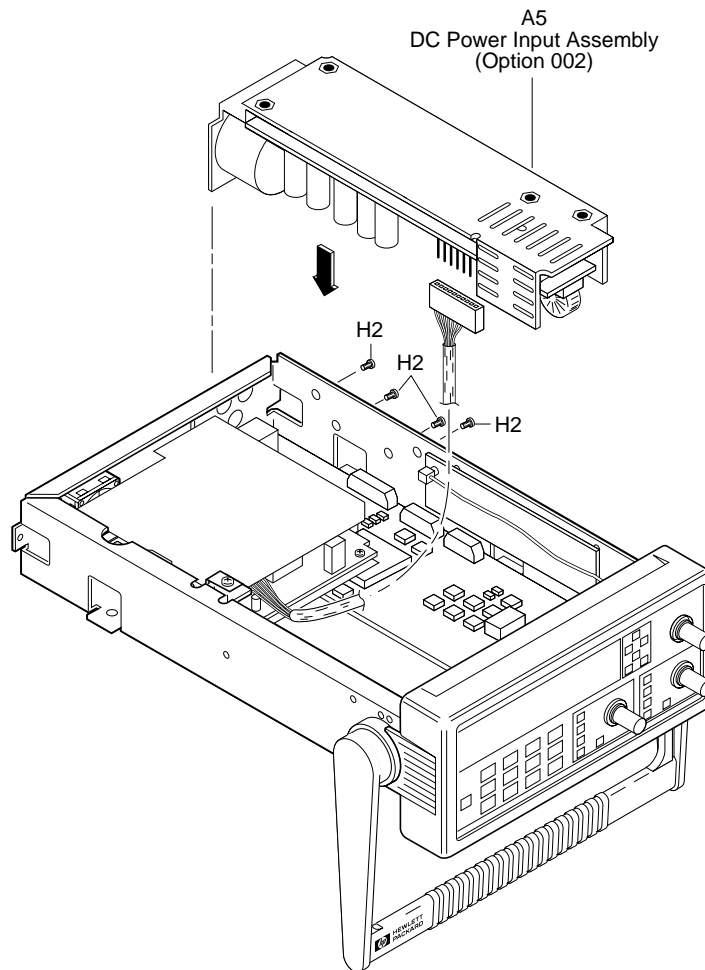

Figure 4-1C. DC Power Input Assembly Retrofitting
- a. First, connect the other ac power supply cable to the connector on A5 printed-circuit board as shown in Figure 4-1C.